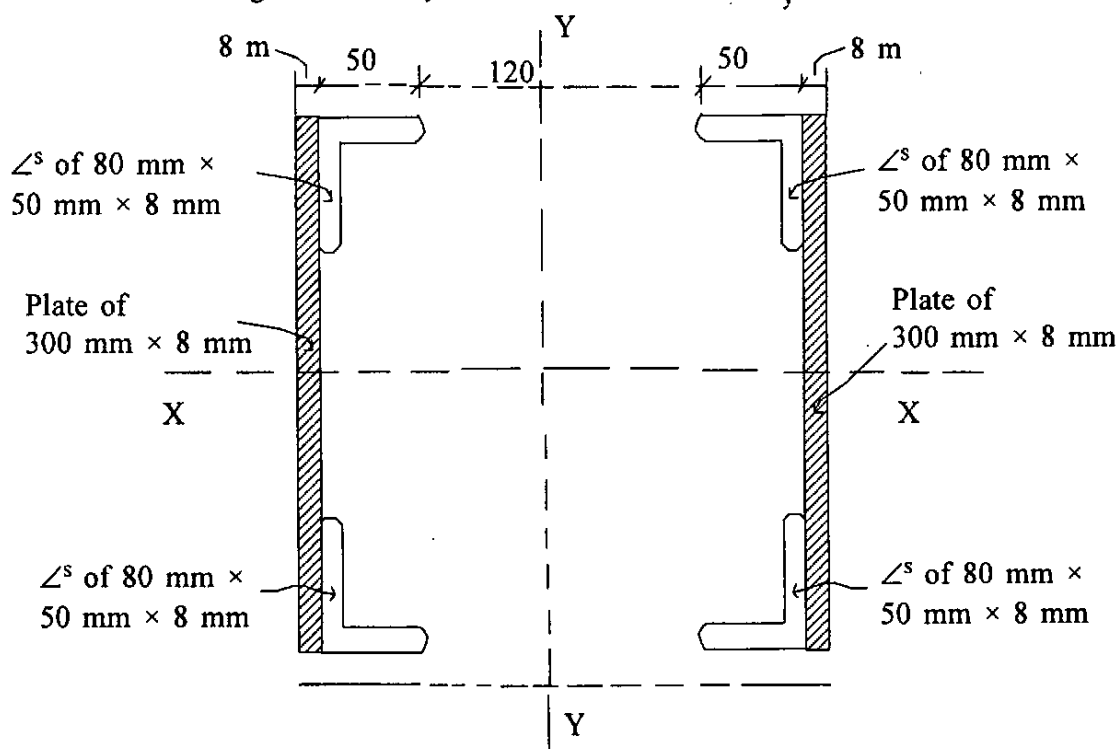

Fig. 1
- Q. 1(c) Find the time period of oscillations for a block of mass 'm' hangs as shown in Fig. 1 and 2. 4+4
- Q. 6(c) Fig. 1 shows the section proposed for the top chord member of a Bridge truss. The effective length of the member is 4.75 m and it has to carry a maximum compressive load of 1000 kN . Investigate the safety of the member. Assume $f_y = 250 \text{ N/mm}^2$.